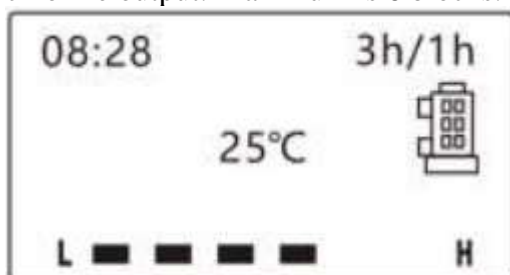

Figure 12
b. Setting the chlorine output level: 6 levels options. Press +/- button to increase or decrease chlorine output and shown on small blocks under screen. More bright blocks signify more chlorine output. Maximum is 6 blocks. Shown as figure 12